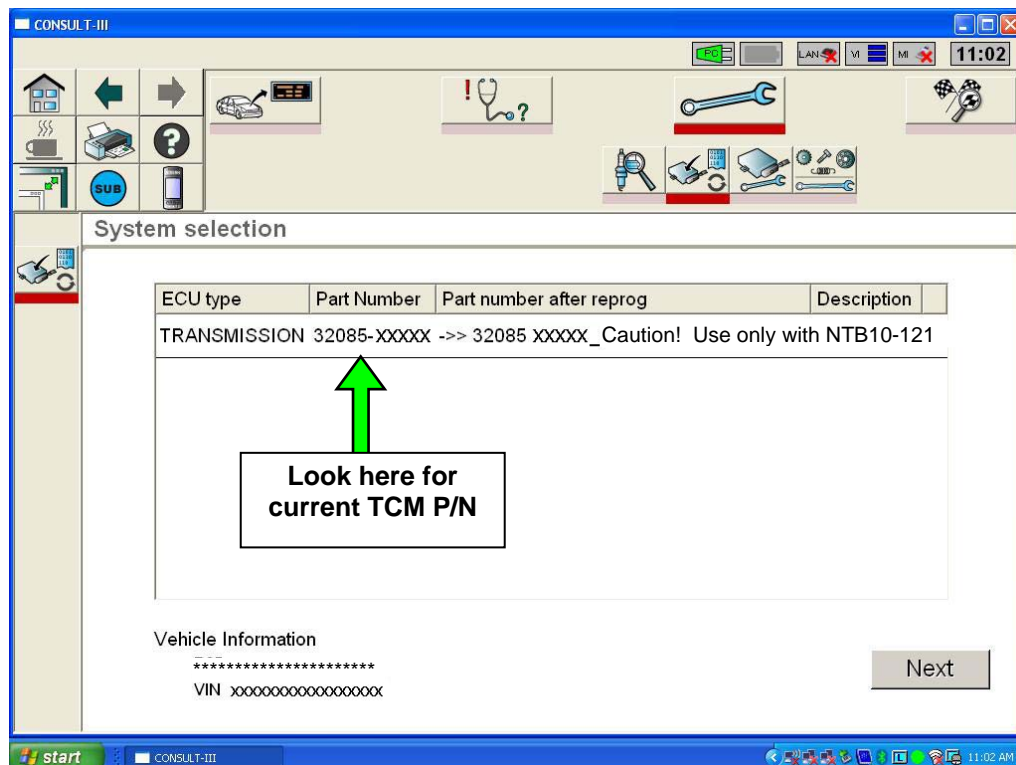

Figure 1
2. When you get to the TCM Reprogramming screen shown in Figure 1, confirm TCM reprogramming applies as follows.
- A. On your C-III screen, look at the **Part Number** (P/N) column (see Figure 1).